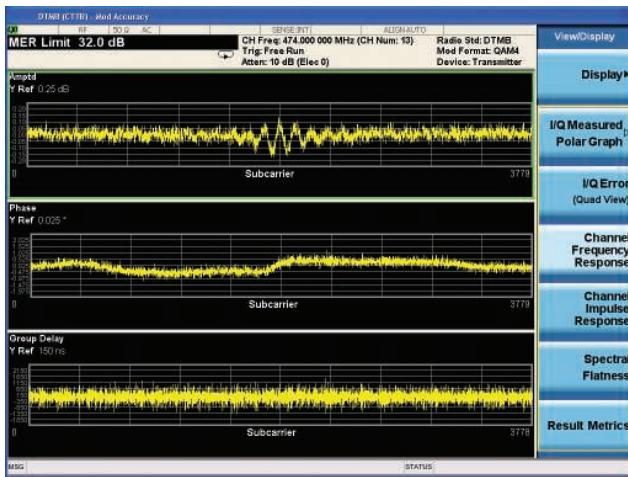

Figure 16. Modulation accuracy measurement with channel frequency response view
- **Channel frequency response** view (Figure 16): This is a three-window view only available for multi-carrier mode which includes:
View the channel frequency response (Figure 16)	[View/Display] {Channel Frequency Response}